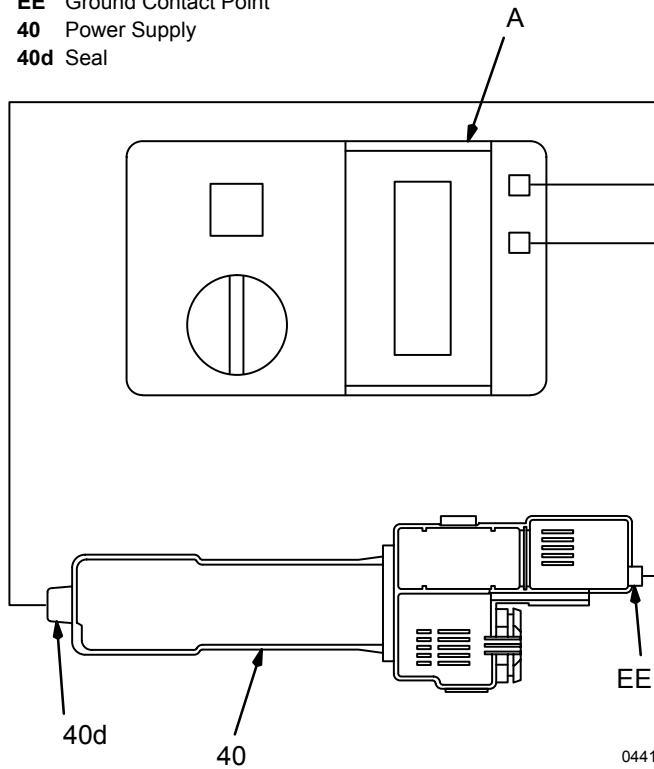

Fig 12
Test Power Supply Resistance (See Fig 12)
Measure the resistance from the power supply's ground contact point (EE) to the contact inside of the power supply seal (40d) [the conductive rubber contact may be slightly recessed into the seal]. See Fig 12 .